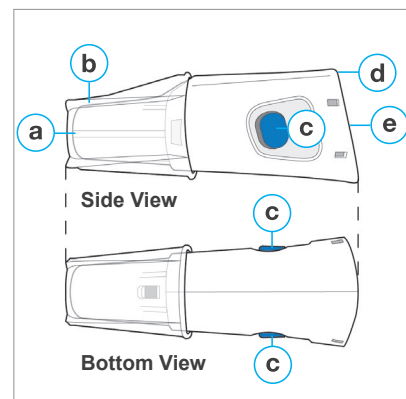

Figure 4 The parts of the Array
3. **CELLECTRA® 5PSP Array:** The sterile, single-use disposable Array consists of five (5) needle-electrodes molded into a plastic housing that also accepts the (shipped separately) VOCERYQ Cartridge. The Array accepts a standard, commercially available glass cartridge (Figure 4).